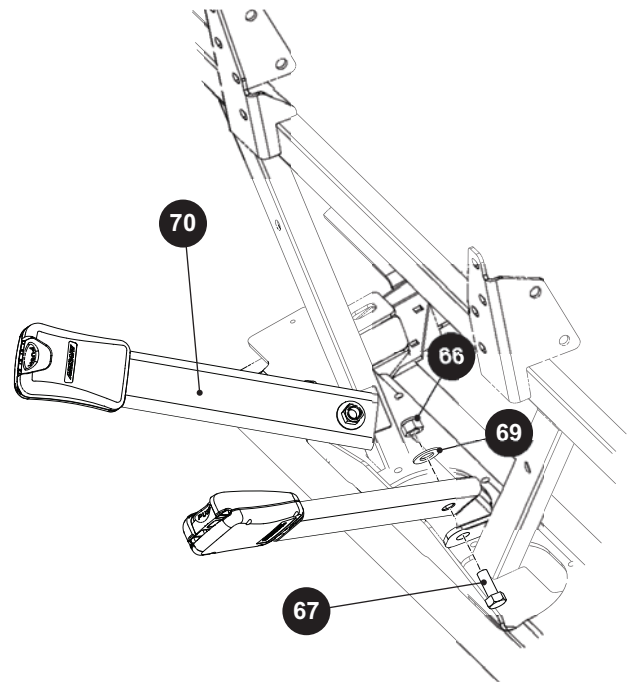

Fig. 9 Front Seat Belt Buckle Removal
Remove the bolts (67), washers (69), and lock nuts (66) that secure the front seat belt buckle (70) to the OPS frame (Ref. Fig. 9).